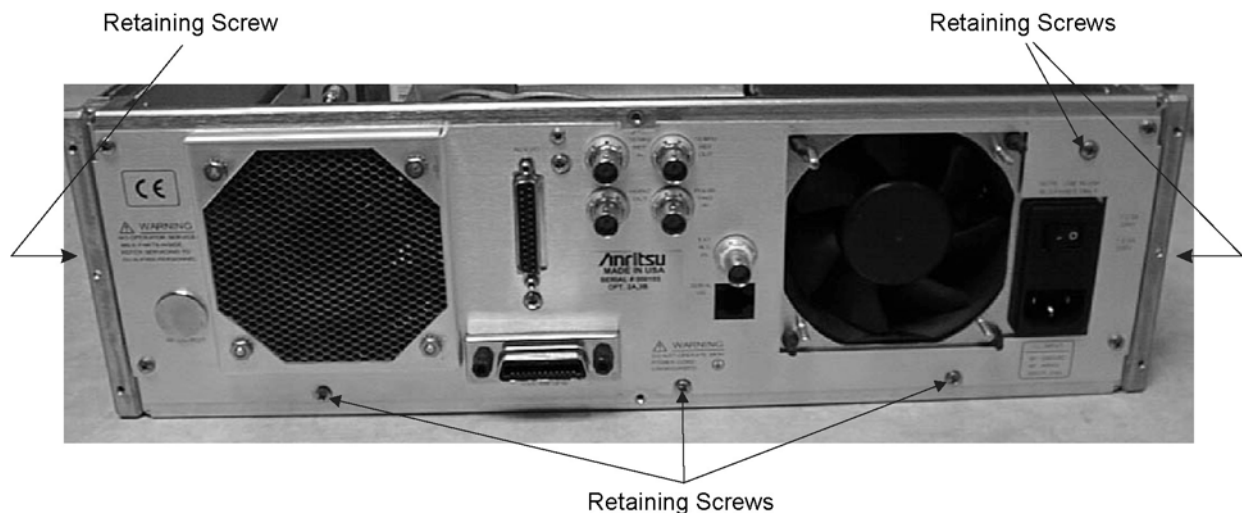

Figure 6-11. Rear Panel Retaining Screw Locations
2. Locate the six screws that secure the rear panel to the chassis and power supply (see Figure 6-11). Use a Phillips screw driver to remove the screws (retain the screws). The last screw is found on the side panel.